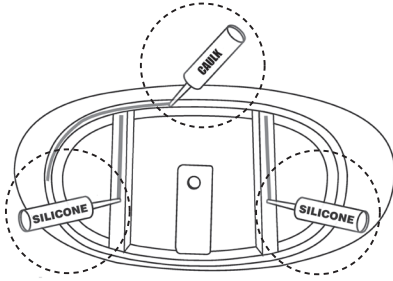

figure 6
13. Apply a generous bead of adhesive or silicone to the bottom of the tub supports (figure 6).
14. Then apply a bead of tub and tile caulk around the edge of the base (figure 6).